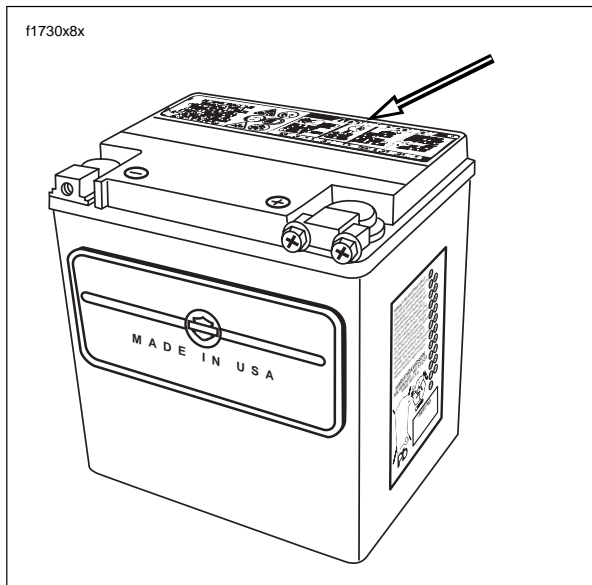

Figure 7-41. Battery Warning Label Location
**Figure 7-41.** Never remove warning label attached to top of battery. Failure to read and understand all precautions contained in warning, could result in death or serious injury. (00064a)